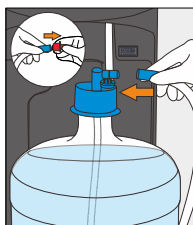

Figure 8
9. Remove the red plug from the SmartFlo™ water line and install onto the bottle adaptor assembly (Figure 8). Save the red plug for future use.